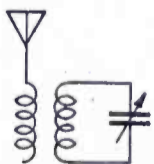
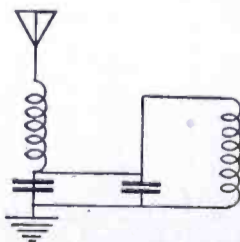
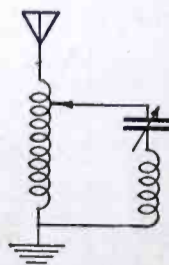

Fig. 16. Electro-Magnetic Coupling
Fig. 17. Electro-Static Coupling
Fig. 18. Conductive Coupling
available: (1) electro-magnetic coupling, Fig. 16, (2) electro-static coupling, Fig. 17; and (3) conductive coupling, Fig. 18. All three ways are practicable, though the first is, by far, the most widely used, and is of interest to us now.